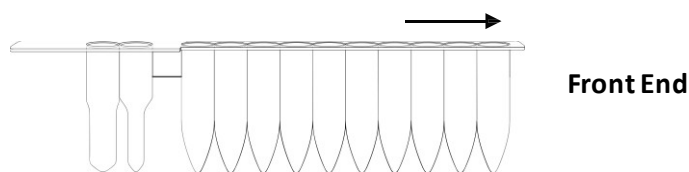
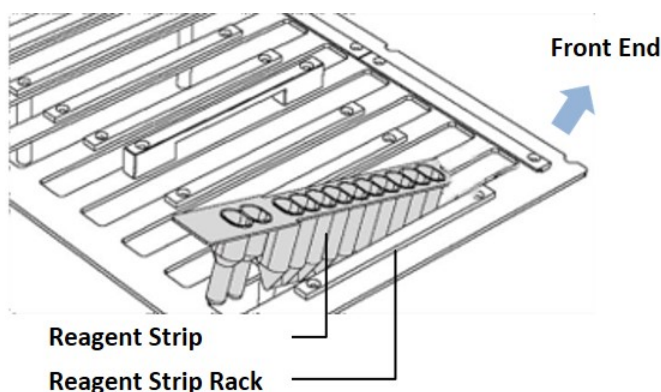

Fig. 1. Reagent Strip
Fig. 2. Reagent Strip and Reagent Strip Rack
3. Put the **Reagent Strip** into **Reagent Strip Rack**. The front end of the **Reagent Strip** (Fig. 1) should be inserted into the slit of the **Reagent Strip Rack** (Fig. 2). Each specimen requires one **Reagent Strip** for extraction.